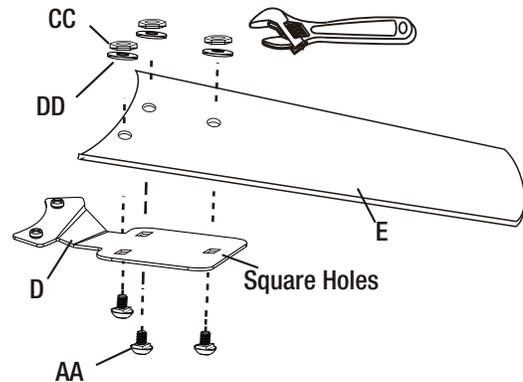

Figure 12
- Mount the blade holders (D) to the fan blades (E) using the square neck screws (AA), hex nuts (CC) and flat washers (DD) provided - 3 each per blade (Figure 12). Please note the screw's square neck **MUST** fit into the square hole in blade holder (D) to act as a screw stopper.